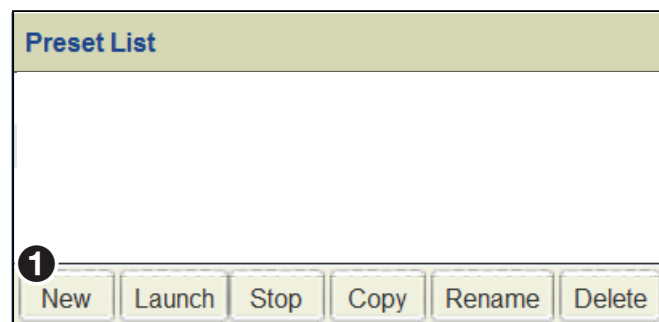

Figure 100. Preset List - New Preset
1. Click **New** (see figure 100, ❶) at the base of the **Preset List** panel to create a blank preset (see Preset Manager Page on page 92).